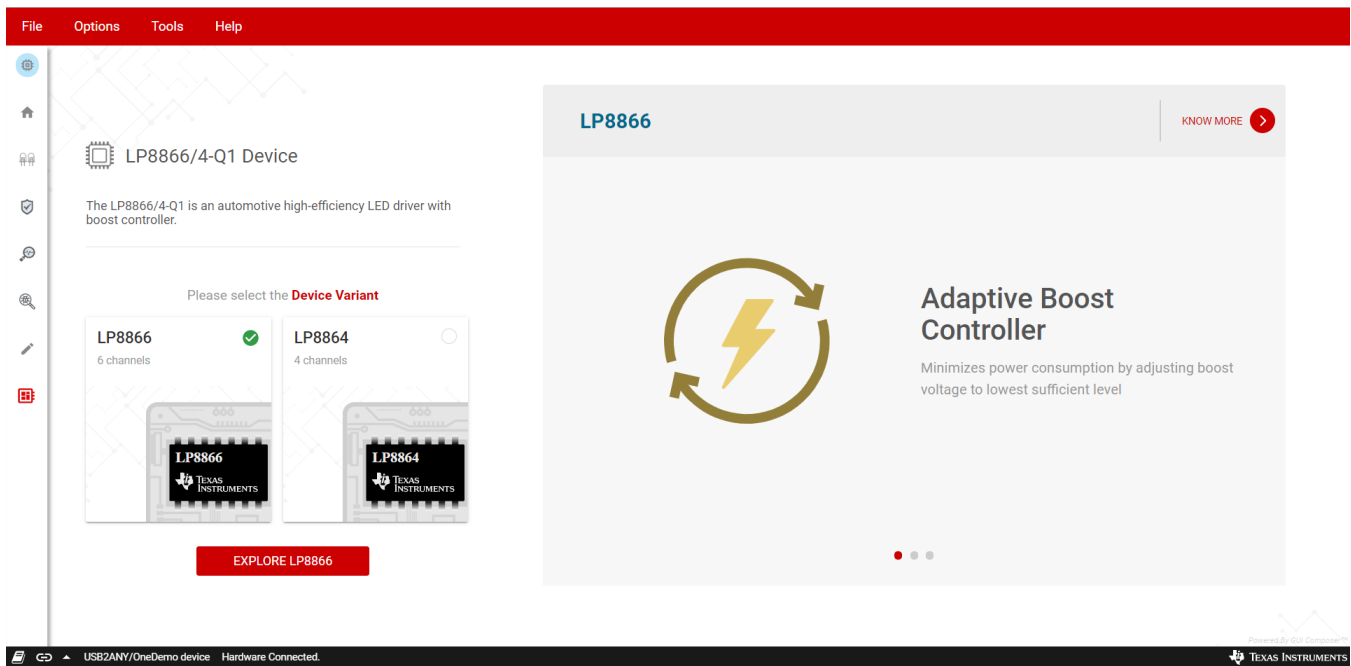

Figure 3. LP8866/4 Family GUI Landing Page
1. After the hardware is connected successfully, run the GUI software. Turn on the 12-V external power supply. Select the right device variant of the EVM, which is LP8866, as shown in Figure 3.
2. Check the connection status button on the bottom left corner of the GUI. The button should be like the one shown in Figure 3. There should be a "Hardware connected" message on the status bar next to the button. If it shows "Hardware not Connected", click the button to connect to hardware manually. This button can be used to connect or disconnect the GUI to the hardware during the evaluation.